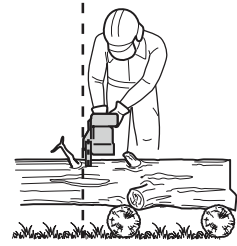

Fig. 20
2. Always hold the product firmly with both hands; front handle (4) with the left hand and rear handle (1) with the right hand. Fully grip both handles at all times during operation. Never operate the product using only one hand.
3. Only use the product with a secure stance. Hold the product at the right-hand side of your body (Fig. 20).